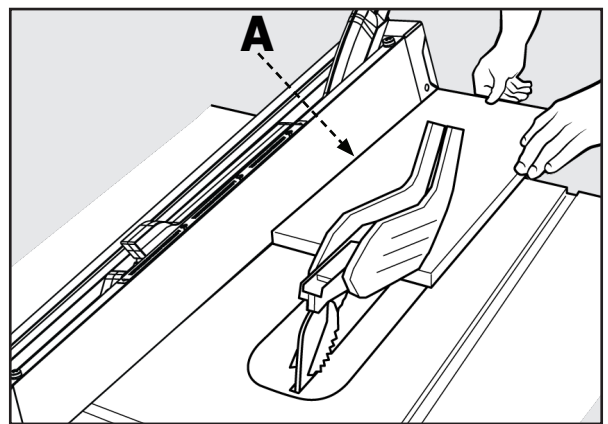

FIGURE 15
8. Hold the workpiece flat on the table and against the fence (A). The workpiece must have a straight edge against the fence and must not be warped, twisted or bowed. See proper hand position in Figure 15.